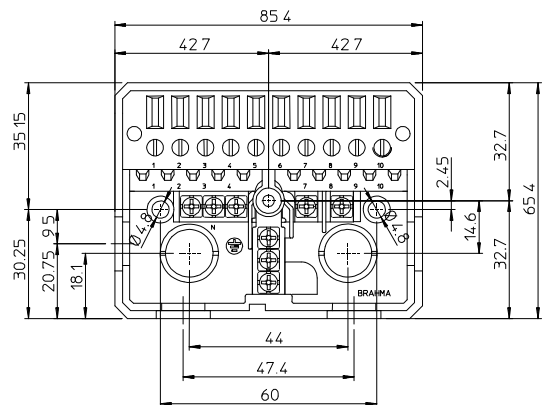

Fig.3
Fig.3 shows these accessories and all relevant dimensions, useful for the installation.
- the level of the flame signal is sufficient, see Fig.3 to execute the test;